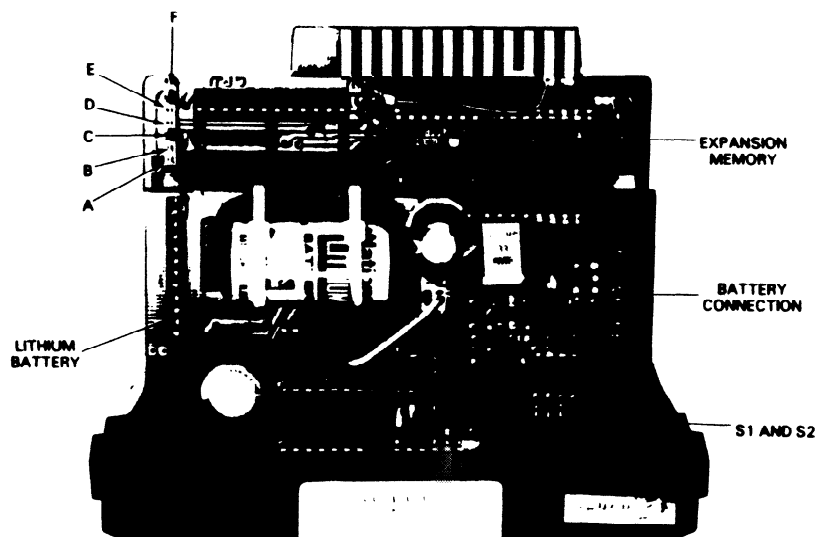

Figure 3-8. CPU Module
17. Locate the CPU module (see figure 3-8) and set switches and shorting bridge connectors per table 3-2. If additional CMOS or PROM memory is to be installed, now is the time to do it. For detailed instructions, see Chapter 7.